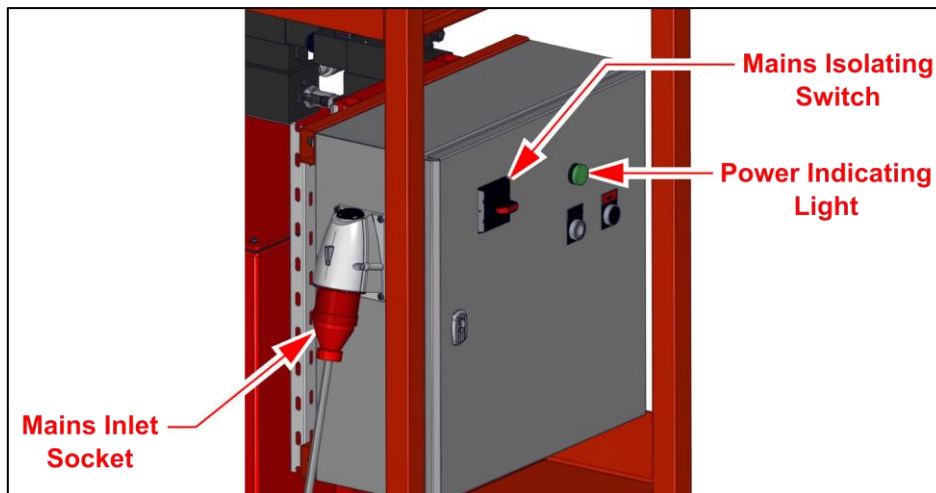

Figure 5.7: Mains Power Connection
- Before making an electrical connection, refer to the data plate located on the motor (5) for voltage and current requirements. Once satisfied that the supply is suitable, an electrical connection can be made using the 415V 32A cable “socket end” supplied. (See figure 5.7)